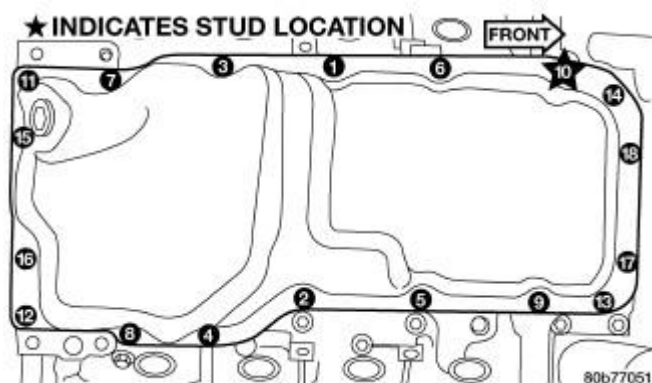

Fig. 225: Oil Pan Mounting Bolts and Oil Pan
3. Position the oil pan and install the mounting bolts. Tighten the mounting bolts to 15 N.m (11 ft. lbs.) in the sequence shown in **Fig. 225**.